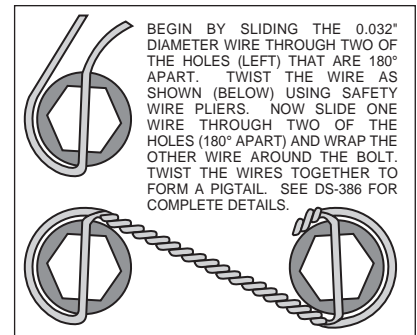

Figure 3. Safety Wire Diagram
- Apply red *Loctite*® 271 to bolt threads (2 and 3) before assembly of the caliper mounting bracket (1). Mount bracket (1) to dust face plate of spindle by screwing bolts (2) into steering arm, finger tighten only. Install bolts (3) through caliper mounting bracket (1) and steering arm, secure with washer (4) and nut (5), finger tighten only. Torque bolts (2 and 3) to 80 ft-lb. **NOTE:** Be sure the heads of the bracket (1) insert nuts are facing outward toward the wheel.
- Install wheel studs (6) into the hub (7). Torque to 77 ft-lb. **NOTE:** There are two five lug patterns in the hub (5 x 4.50 and 5 x 4.75). Make sure of the correct hole pattern for the correct wheel application before installing studs into hub.
- Pack the large inner bearing cone (8) with high temperature disc brake bearing grease (available from your local auto parts store) and install into the backside of the hub (7).
- Install the grease seal (9) by pressing into the backside of the hub (7).
- Attach rotor adapter plate (10) to rotor (11) using bolts (12). Torque bolts (12) to 180 in-lb. Safety wire bolts (12) using standard 0.032 inch diameter stainless steel safety wire as shown in Figure 3. Please refer to Wilwood's data sheet DS-386 (available at [www.wilwood.com/pdf/ds386.pdf](http://www.wilwood.com/pdf/ds386.pdf)) for complete safety wire installation instructions. **NOTE:** Dished side of adapter plate (10) should face hub (7). The mounting tabs on the rotor (11) should face toward the hub as well and line up with the holes on the adapter plate (10).
- Mount the adapter/rotor assembly (10 and 11) to the hub (7) using bolts (13). Torque bolts (13) to 25 ft-lb. Safety wire bolts (13).